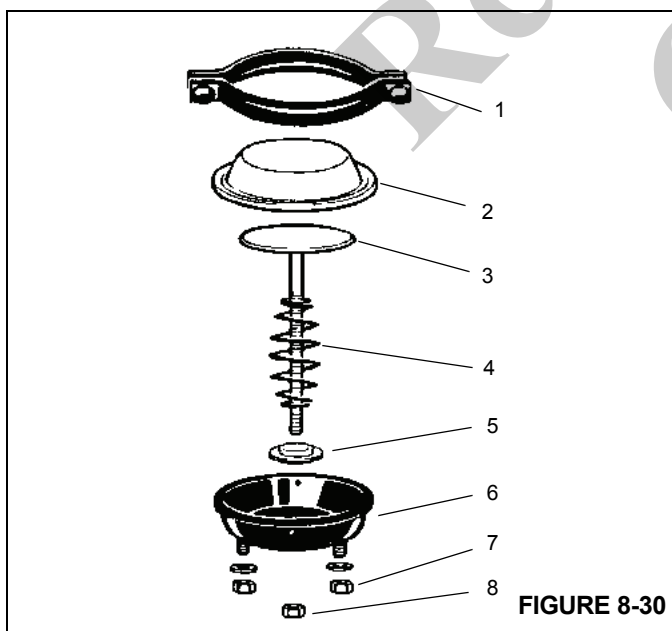

FIGURE 8-30
4. Remove the push rod (see Figure 8-30).
3. Position the diaphragm over the push rod (see Figure 8-30).